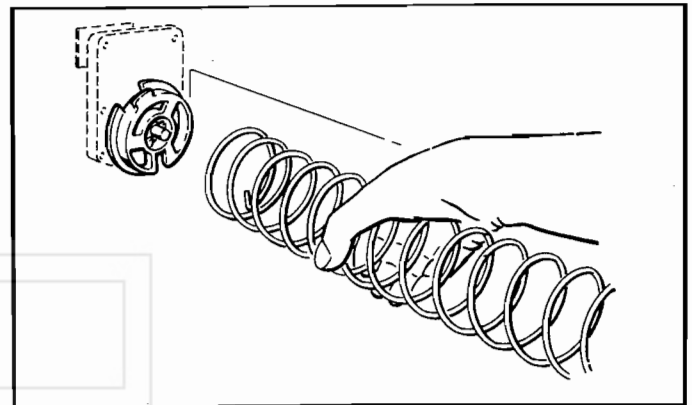

Figure 3. REMOVING AND INSTALLING SPIRAL.
4. REMOVAL OF SPIRAL: Grasp the front of the spiral and turn it clockwise. Lift the spiral up and off of the spiral lock. When replacing a spiral attach it around the tab on the spiral lock and turn the spiral counterclockwise to lock it in place. Be sure the front end of the spiral is positioned properly (with the front end of the spiral pointing downward on the left side) (see Figure 3). The spiral lock is attached between the spiral retainer tabs. Give a light forward pull on front of the spiral to check if it is locked in place.